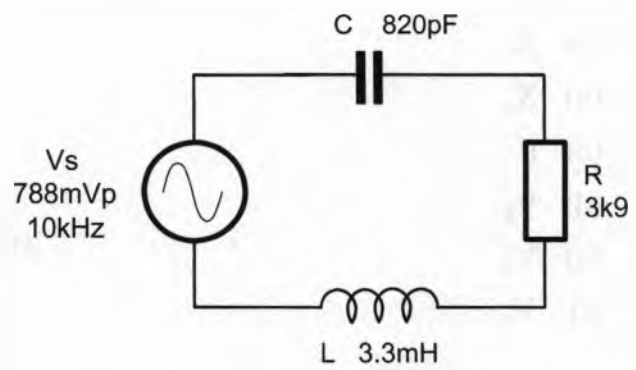

Figure 10
19. For the circuit of Figure 10, calculate: